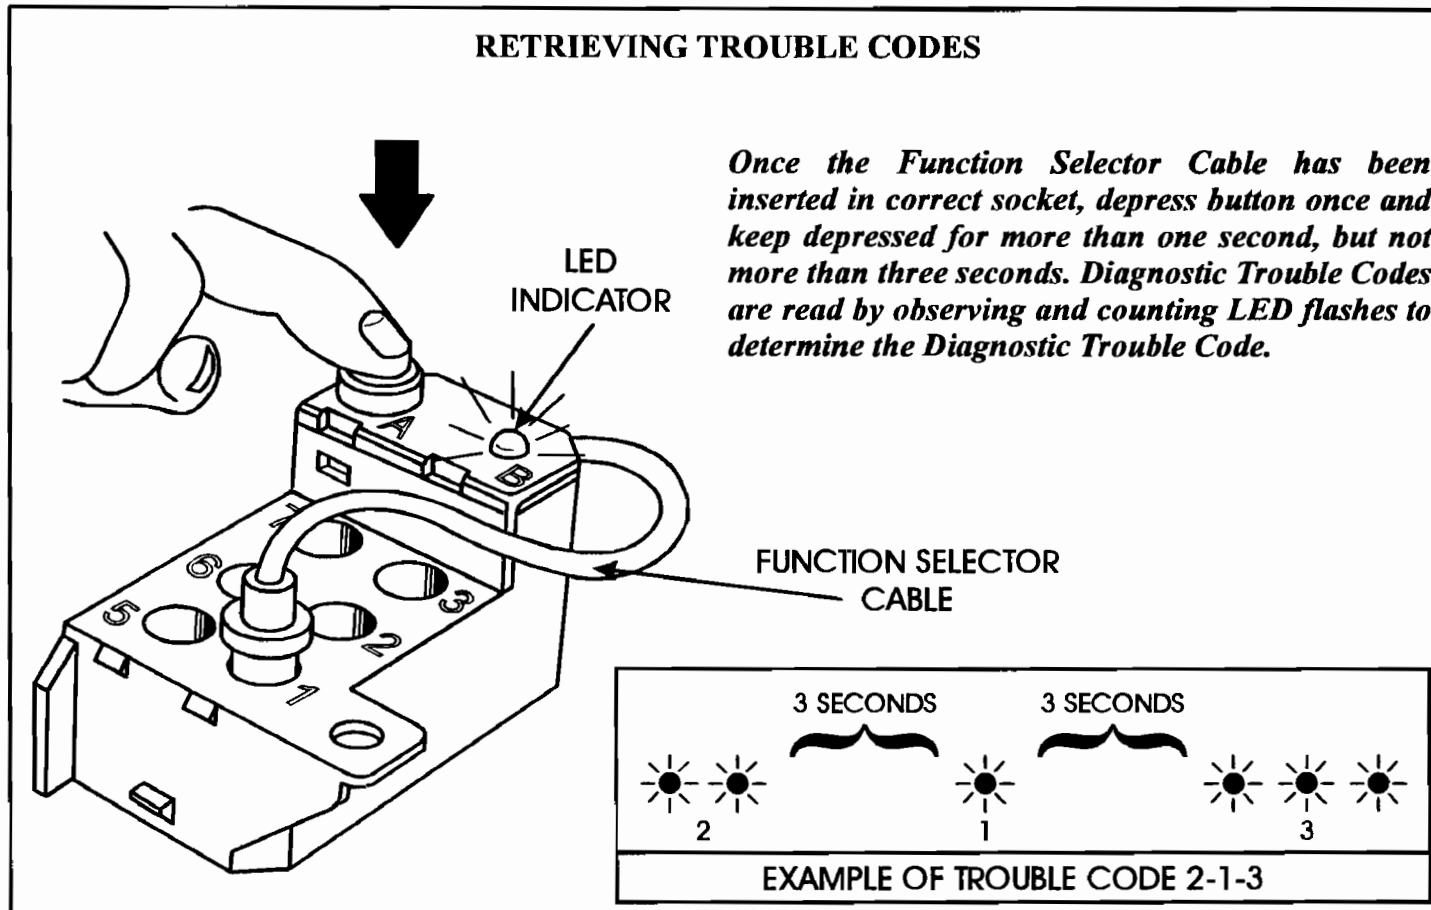

Figure 2
- (5) Observe the LED Indicator on the diagnostic unit, and count the number of flashes to determine the *first* Diagnostic Trouble Code stored in the TCM memory. All codes contain three digits (Example: 2-1-3). Since all codes have three digits, each code requires three series of flashes on the LED Indicator. Example is shown in Figure 2.
- (6) Since only one DTC can be retrieved with one push of the button, depress the Activation Button again to determine if any additional DTC's have been stored in the TCM memory.
- (7) Read and record all Diagnostic Trouble Codes, pushing the activation button as many times as necessary, until the first code returns to the display.
- (1) Ensure that the Function Selector Cable is still located in diagnostic unit output socket number 1, as shown in Figure 2, and the ignition switch is in the "ON" position.
- (2) Depress the activation button, and hold down for at least five seconds, and watch for LED indicator response. The LED indicator should go out three seconds after the button is released.